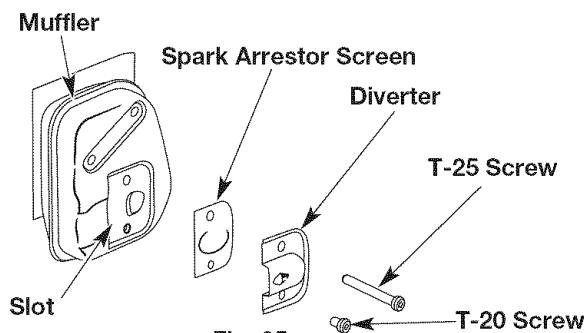

Fig. 35
2. With a flat blade screwdriver or Torx T-20 bit and a T-25 bit, remove the screws attaching the spark arrestor diverter to the muffler (Fig. 35).